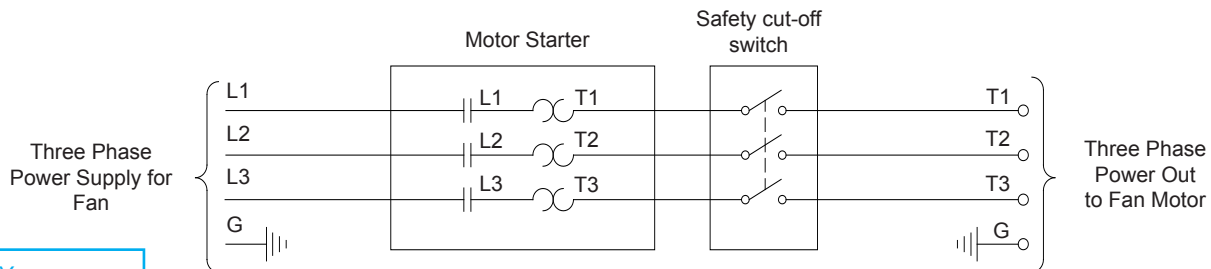

Figure 4B
**Three Phase Fans:** motor overload protection should be provided for each fan. A three-pole motor starter or slow blow motor fuses must be used. See Figure 4B.